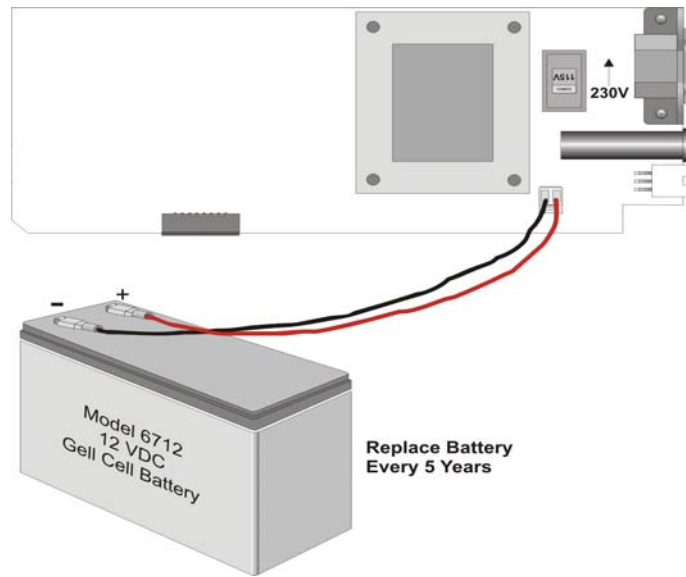

Figure 3-13 Battery Connections
3. Disconnect the backup battery. (See Figure 3-13.)
6. Reconnect the back-up battery. (See Figure 3-13.)
1. Place the 6712 backup battery into the battery bucket (See Figure 3-13).